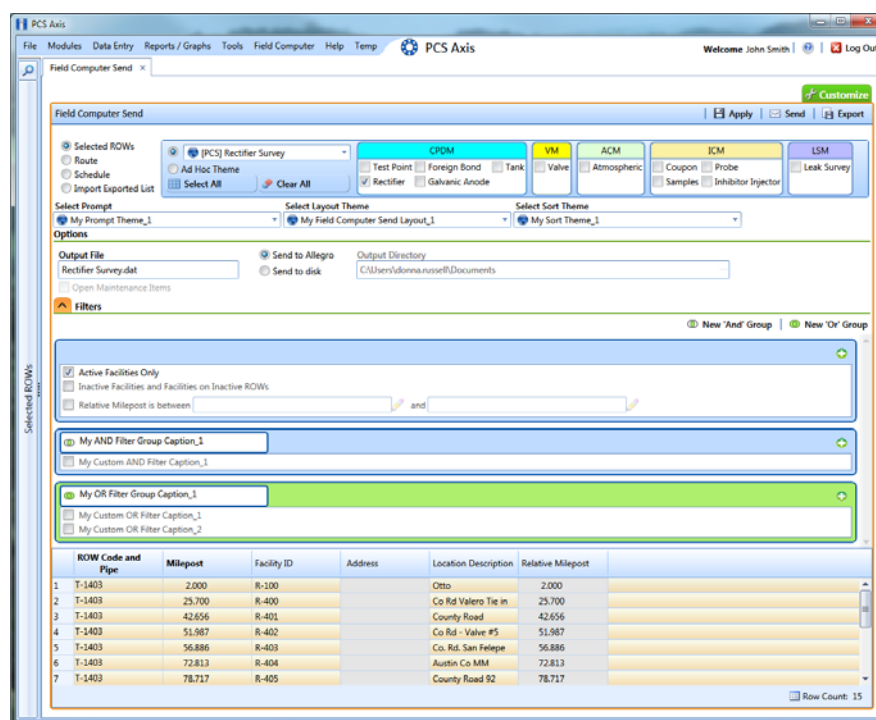

Figure 12-38. Filters
- a Click the  **Filters** tab to open the *Filters* panel (Figure 12-38, page 516).